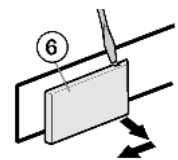

Fig. 6
- ▶ Using a screwdriver, detach the cover on the handle side Fig. 6 (6) and draw it outwards for removal.